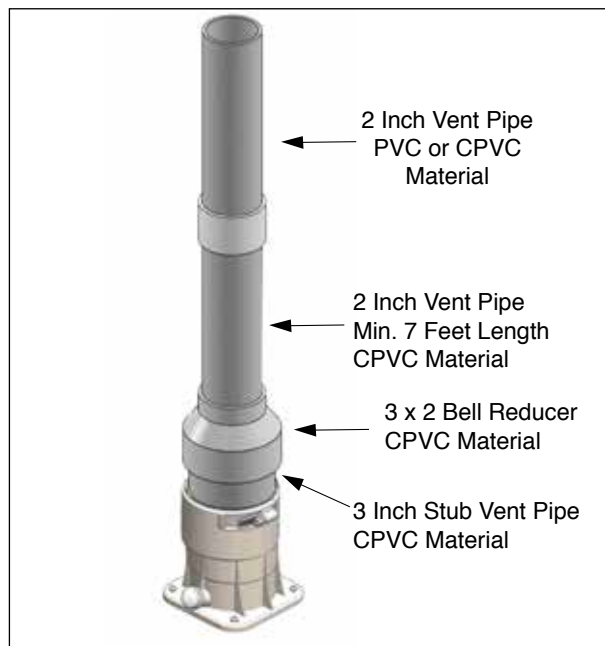

Fig. 21 - 2" (60 mm) CPVC/PVC Venting System Vertical
3. Use a 3" (80 mm) x 2" (60 mm) bell reducer to make the transition to 2" (60 mm) CPVC/PVC vent, see Figs. 21 and 22.